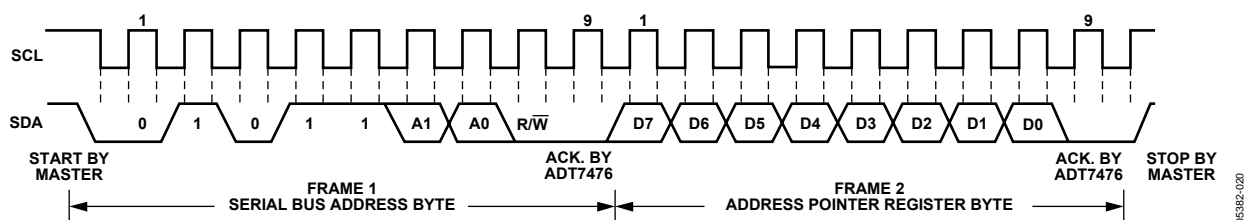

Figure 19. Writing to the Address Pointer Register Only
- If the ADT7476 address pointer register value is unknown, or not the desired value, it must first be set to the correct value before data can be read from the desired data register. This is done by performing a write to the ADT7476 as before, but only the data byte containing the register address is sent, because no data is written to the register (see Figure 19).